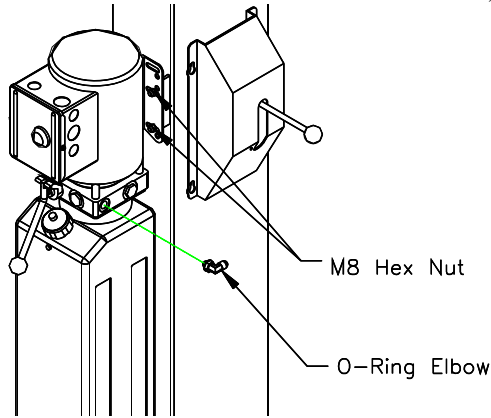

Fig 5 – Power Unit Mounting
- 19) Mount Power Unit to power column as shown in **Fig 5**. The mounting hardware, (4) M8 hex nuts, are pre-installed on power unit mounting bracket.